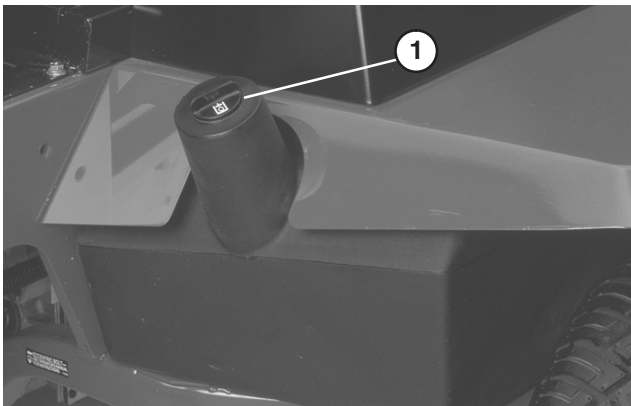

Figure 58
2. Remove drain plug from bottom of reservoir (Fig. 58) and let hydraulic fluid flow into drain pan. Reinstall and tighten plug when hydraulic fluid stops draining.